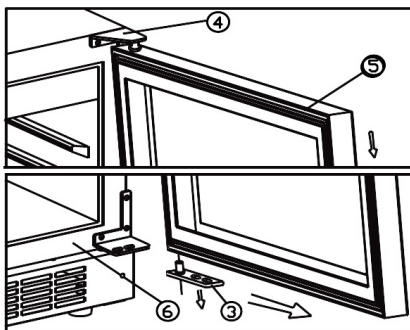

fig. 6.2
- Dismount the door by pulling it forwards and free from the top hinge. See fig. 6.2